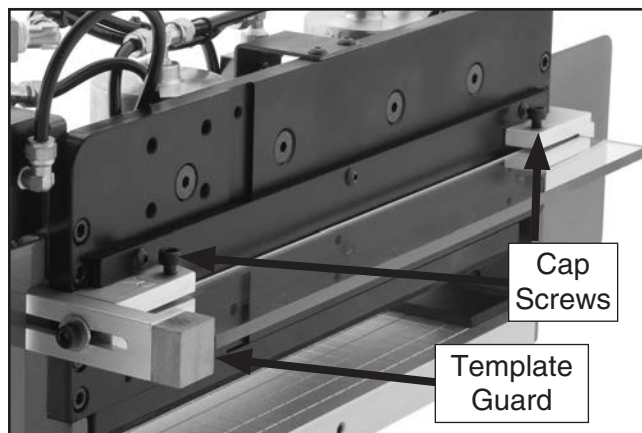

Figure 13. Installing the template.
The template mounting bracket lets you change templates for various shaping operations. To mount a template, insert it into the template mounting bracket, and secure it with the (2) M6-1 x 16 cap screws (see **Figure 13**). Position the template guard flush with the front edge of the template to protect the template from damage.